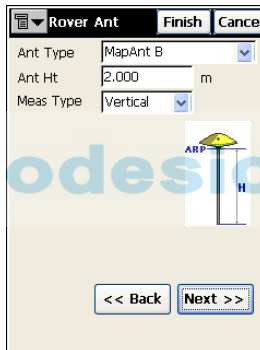

Figure 2-12. Configure the Rover Antenna
12. On the **Rover Ant** screen, select the type of antenna used and set measurement parameters (Figure 2-12). Press **Next**.